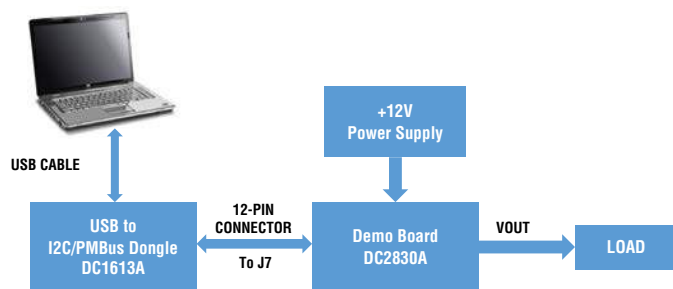

Figure 1. Demo Setup with PC of DC2830A
Demonstration circuit 2830A makes it easy to use the LTC7106 to adjust the LTM4636 output voltage. This demo manual will focus on the evaluation of LTC7106. For the LTM4636 evaluation procedure, please refer to the DC2230A-A demo manual on the Analog Devices website. Please refer to Figure 1 for proper demo board setup with PC and follow the procedure below:
- With power off, connect the input power supply, load and meters as shown in Figure 1. Preset the load to 0A and  $V_{IN}$  supply to 12V.